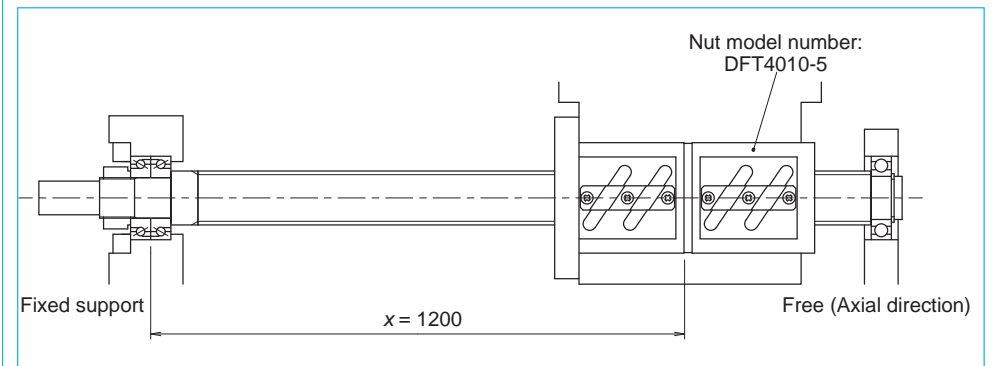

Fig. 6.6 Axial rigidity of the screw shaft calculation example (1)
Obtain axial rigidity of the screw shaft under the condition in Fig. 6.6.
- From Fig. 6.6: Supporting condition ; Fixed support --Free (axial direction)